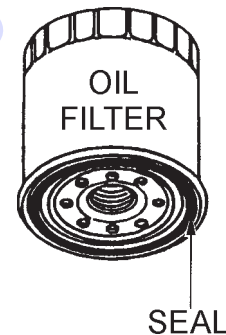

Figure 15. Oil Filter
- Replace the engine oil filter (Figure 15) every 200 hours.